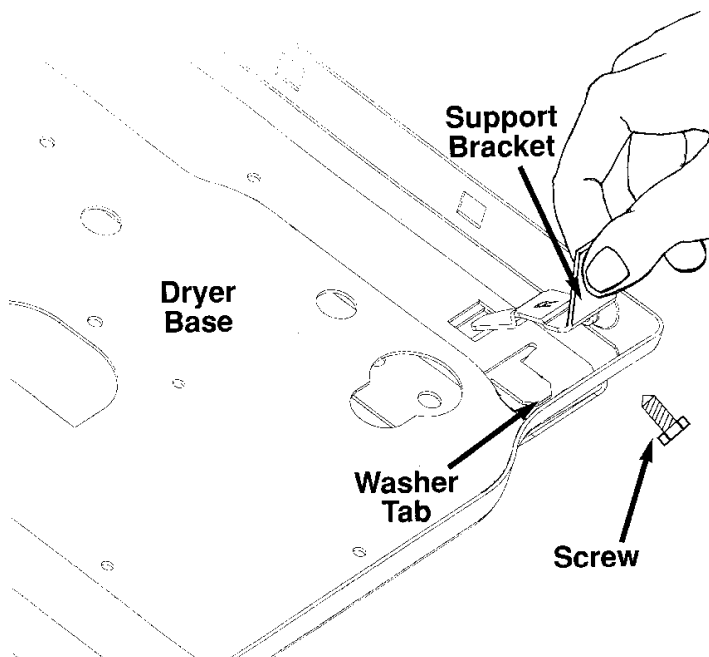

Figure 38
- 16.** Insert the base to support brackets (removed in step 11) on both sides the upper base and secure with the screws also removed in step 12. (See figures 38 & 39.)